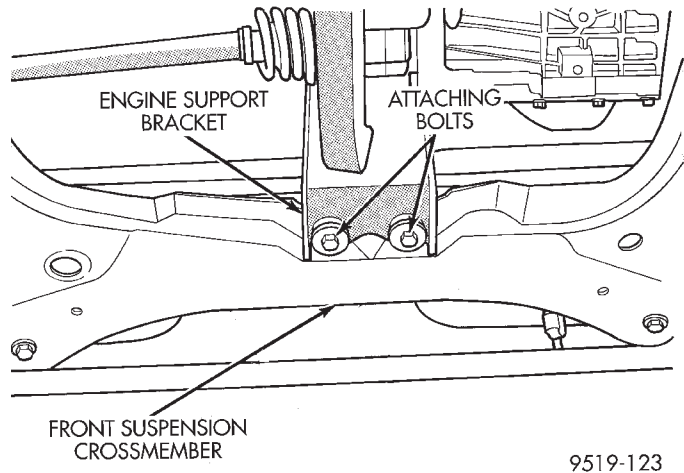

Fig. 14 Engine Support Bracket To Crossmember Attaching Bolts
(14) Remove the 2 bolts attaching the under engine support bracket (Fig. 14) to the front edge of the front suspension crossmember.
(5) Install the engine support bracket on the front of the front suspension crossmember (Fig. 14). Install the 2 support bracket to suspension crossmember attaching bolts and tighten to a torque of 75 N·m (55 ft. lbs.).